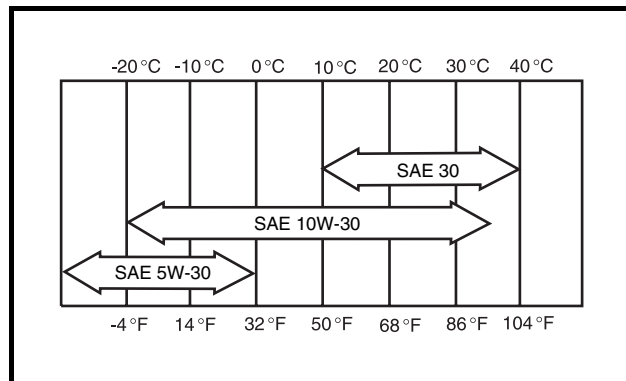
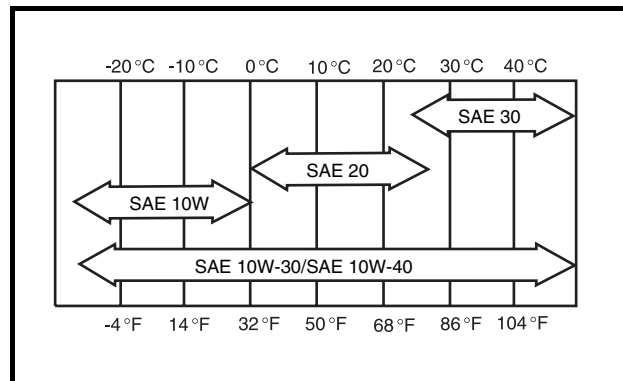

Figure 30 Oil Viscosity Chart – Gasoline Vehicles
Figure 31 Oil Viscosity Chart – Diesel Vehicles
2. Refer to oil viscosity guidelines for selection of oil grade (**Figure 30** or **Figure 31**). **See following CAUTION.**
Choose the viscosity according to the temperature as shown in the appropriate oil viscosity chart (**Figure 30** or **Figure 31**). **See following NOTE.**